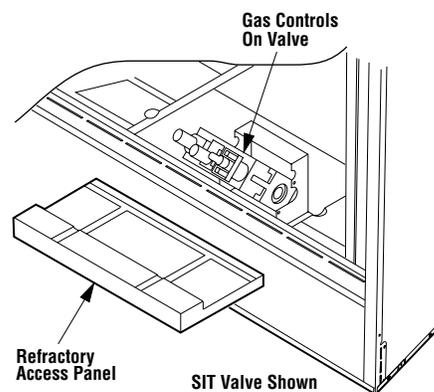

Figure 1
1. Appliance operation may be controlled through a remotely located optional wall switch. Separate switches may provide independent control for the remote controlled fireplace operation (optional equipment). In lieu of remote or remote wall switch operation, the appliance must be operated directly through the controls located on the front of the valve located within the control compartment under the removable refractory access panel, *Figure 1*.
Operation of millivolt and electronic gas control systems are different. Before lighting and operating your appliance determine if you have a millivolt or electronic appliance. *Refer to Figure 1* to access the gas control compartment below the lower refractory panel.